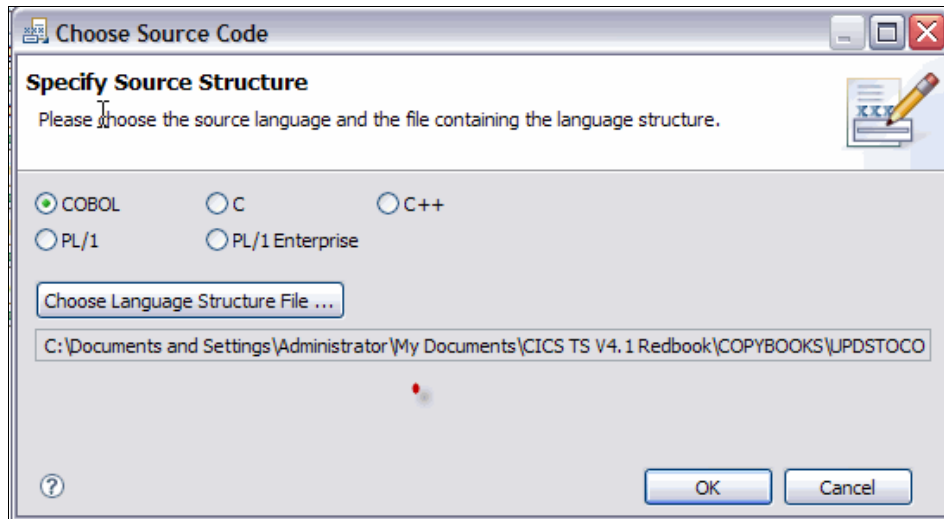

Figure 5-55 Specifying source structure
9. In the “Choose Source Code” panel (Figure 5-55), select the **COBOL** radio button. Click **Choose Language Structure File**. Select the COBOL copybook **UPDSTOCO**, and click **OK**.